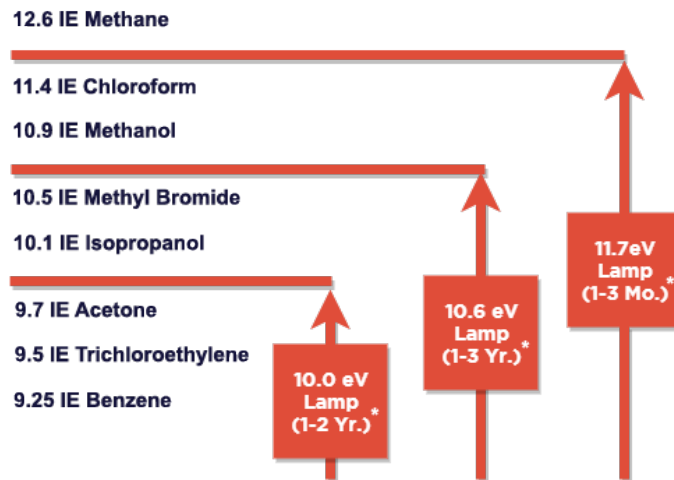

Figure 4: PID lamp energy thresholds
Figure 4 illustrates that a lamp can only detect those compounds with ionization energies (IE) equal to or below that of the lamp photons. Thus, a 10.6 eV lamp can measure hydrogen sulphide with an IE of 10.5 eV and all compounds with lower ionization energy, but cannot detect methanol or compounds with higher IE.
Benzene has a low IE value as shown in Figure 4 and it is often present in a cocktail of other chemicals including aromatics. Using a proprietary 10.0eV lamp means that only the aromatics are detected and should the total aromatic compounds (TAC) be above the regulatory limit a benzene pre-filter tube can be used to provide an accurate reading.